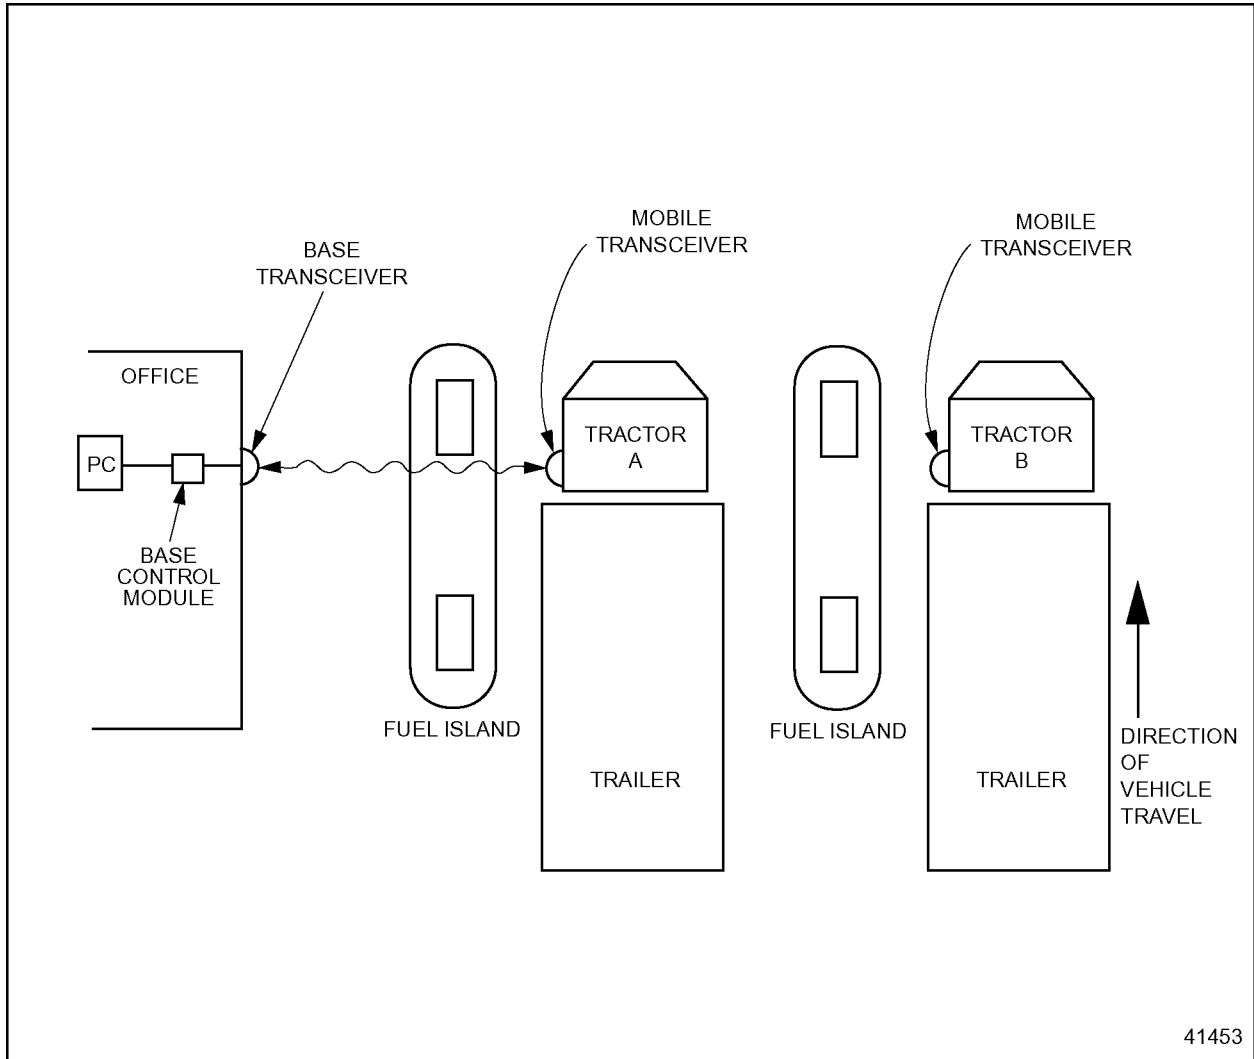
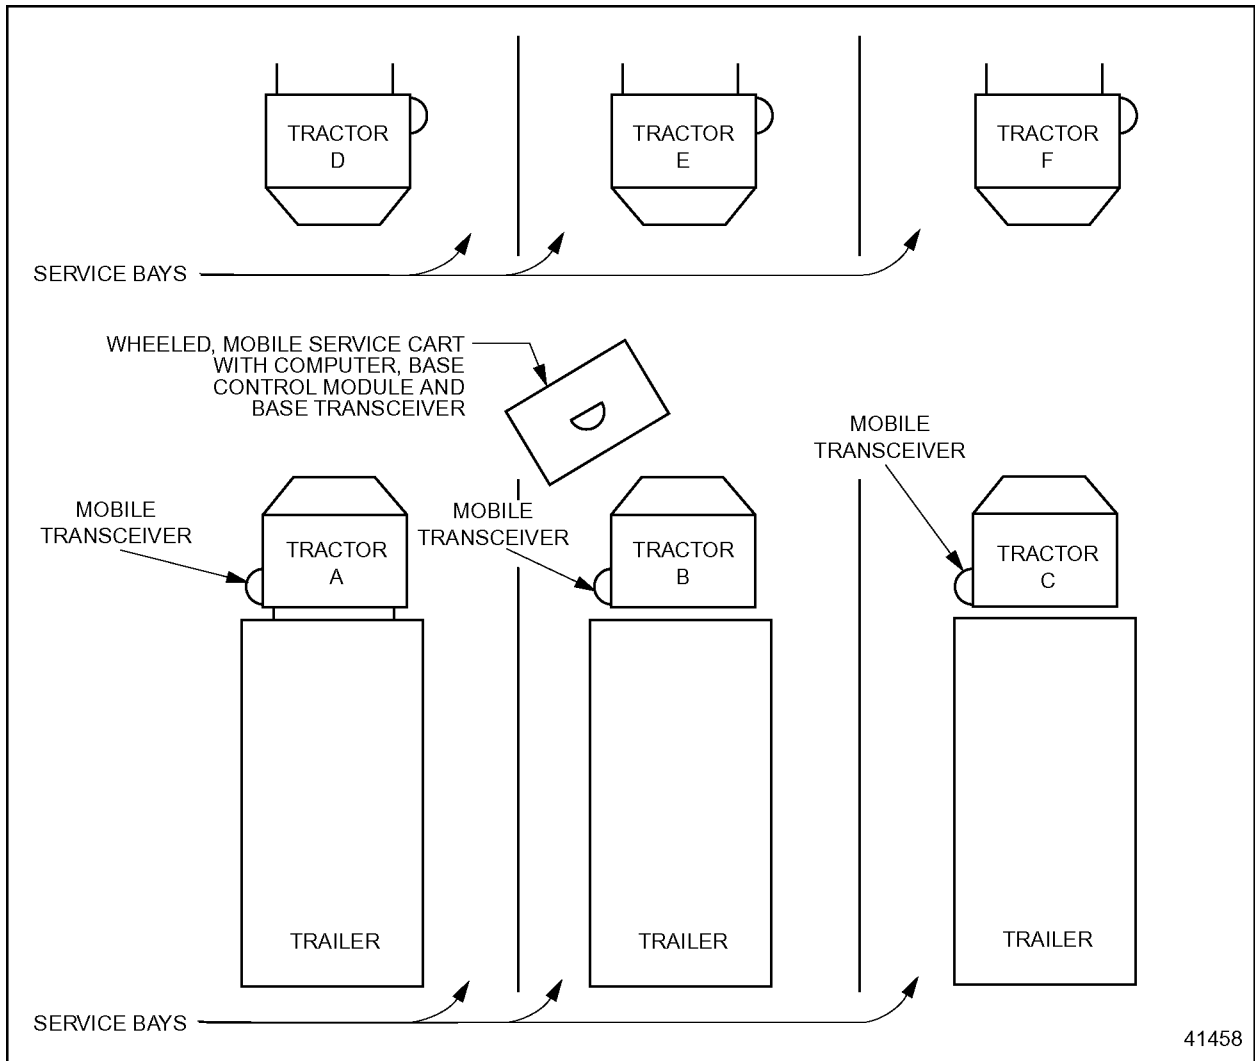

Figure 5. One Base Transceiver, One Base Control Module, Multiple Lanes
Figure 6. One Base Transceiver, One Base Control Module with Multiple Lanes
- One Transceiver, one Control Module covering multiple lanes; only one vehicle is serviced at a time (see Figure 5 and Figure 6).